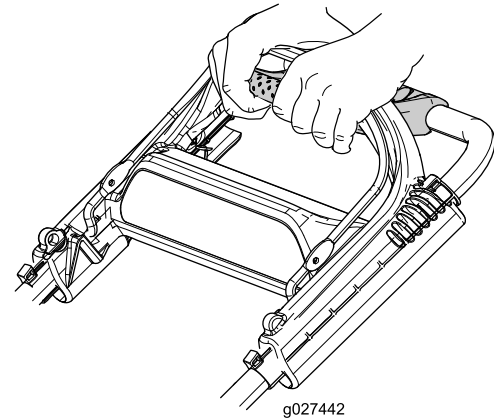

Figure 20
1. Reach forward with your fingertips and grasp the corners of the traction-assist handle (Figure 20).